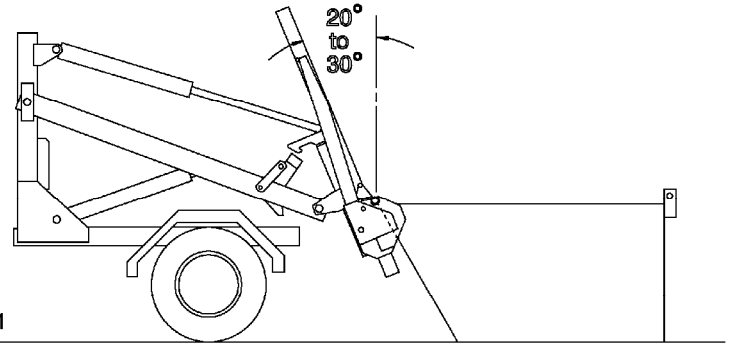

Figure 1
4. Raise the mast until the trunnion bars are securely located into the slots and tilt forward as shown in Figure 1 above.